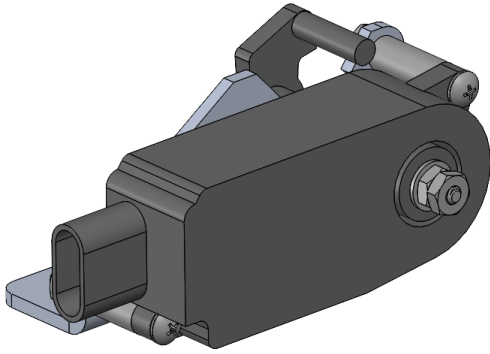

Figure 9
14. Install the spline section back into the motor, aligning it with the mark you made in Step 8. Secure it in place using the #8 x 2-1/2 Machine Screw, followed by a washer and two nuts. Lock the nuts together so secure it in place as shown in Figure 9.